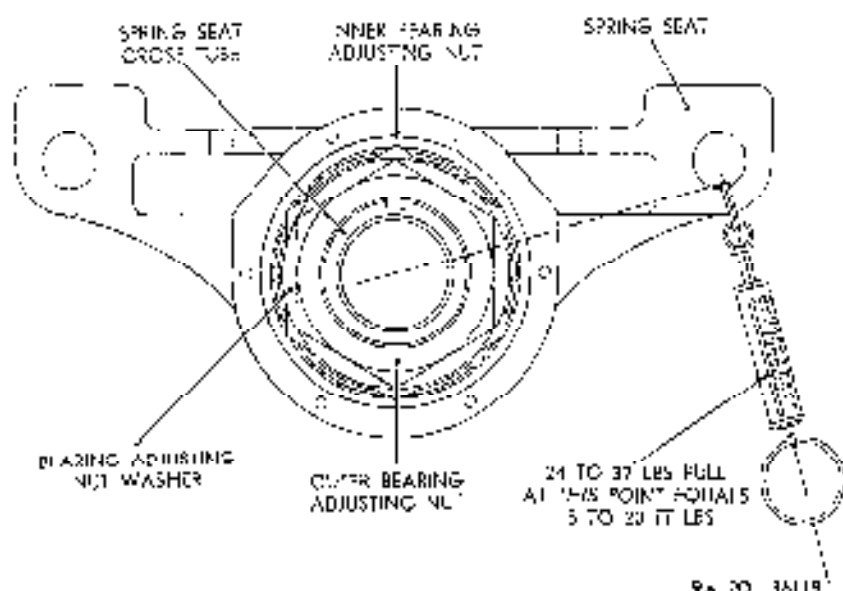

Figure 271. Spring seat bearing adjustment.
- (12) Place two jacks under spring, one on each side of spring seat, and raise spring clear of seat sufficiently to permit some rotation of spring seat around end of cross tube (fig. 271).
- (13) Hook end of a tester scale in clamp bolt hole (fig. 271) and pull downward on scale, noting pull required to rotate spring seat on cross tube. When bearings are correctly adjusted, pull on scale required to rotate spring seat is 51 to 52 pounds, which is equal to 15 to 20 foot-pounds preload on bearings. If spring-seat bearing adjustment is required, proceed as in (7) through (11) below. Otherwise, proceed as in (12) through (17) below.
- (15) Remove outer bearing adjusting nut (fig. 271) and bearing adjusting nut washer from cross tube.
- (16) Turn inner bearing adjusting nut (fig. 271) until a pull of 24 to 32 pounds on scale is required to rotate the spring seat.
- (3) Remove outer bearing adjusting nut (fig. 271), bearing adjusting nut washer, and inner bearing adjusting nut from cross tube.
- (4) Pull spring seat with outer tapered roller bearing cone from cross tube, and remove cone from spring seat.
- (1) With inner tapered roller bearing cone in position on cross tube (fig. 271), install spring seat assembly on cross tube so that cone enters bearing cup in inner bore of seat.
- (2) Install outer tapered roller bearing cone on cross tube, inserting cone in bearing cup in outer bore of seat.
- (3) Install inner bearing adjusting nut on end of cross tube, and adjust bearings (5(c) above).